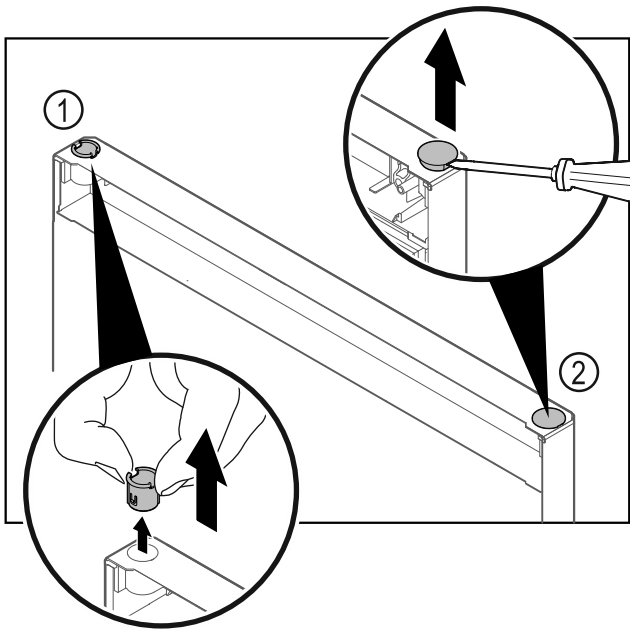

Fig. 11
- Pull out the hinge bushing Fig. 11 (1) with your fingers.
- Carefully lift the cover plug Fig. 11 (2) with a slotted screwdriver and pull it out.